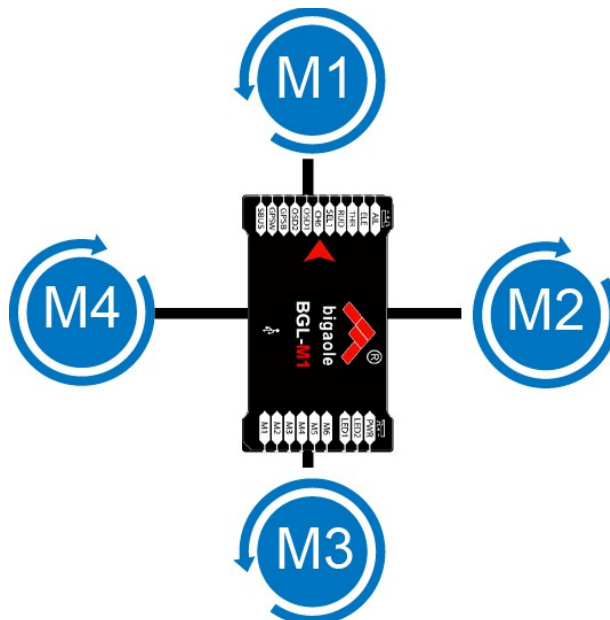

Figure 2: Four X + font installation
- ◆ Four X + font installation instructions in Figure 2 as below: